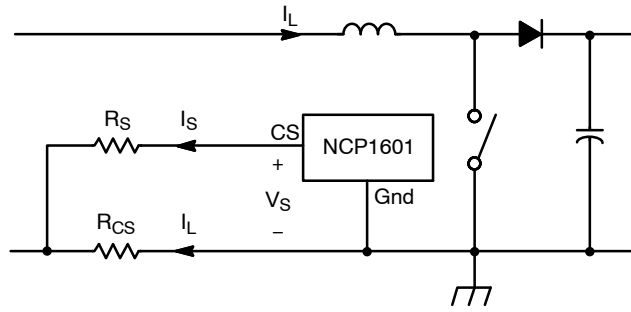

Figure 32. Current Sensing
The device senses the inductor current I_{L} by the current sense scheme in Figure 32. This scheme has the advantages of: (1) the inrush current limitation by the resistor R_{CS} , and (2) the overcurrent protection and zero current detection implemented in the same pin.
Inductor current I_{L} passes through R_{CS} and creates a negative voltage. This voltage is measured by a current I_{S} flowing out of the CS pin (Pin 4). The CS pin has an offset voltage V_{S} . This offset voltage is studied in the setting of zero inductor current $I_{\text{L(ZCD)}}$ and the maximum inductor current $I_{\text{L(OPP)}}$ (i.e., overcurrent protection threshold). A typical variation of offset voltage V_{S} versus sense current I_{S} is shown in Figure 15. Higher the value of the offset voltage at low current region creates lower the zero current threshold for better accuracy. Based on Figure 32, (eq.13) is derived.